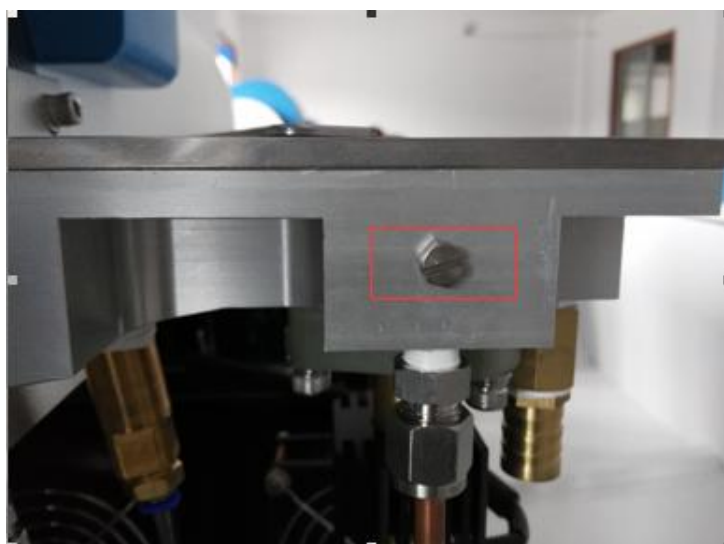

Figure 6-13 Adjustment hole
Step 2 Use a flat-blade screwdriver to unscrew the screw at the adjustment hole in the figure, and then use the M3 hex wrench to loosen the screw that fixes the tungsten electrode from the adjustment hole, as shown in Figure 6-13: